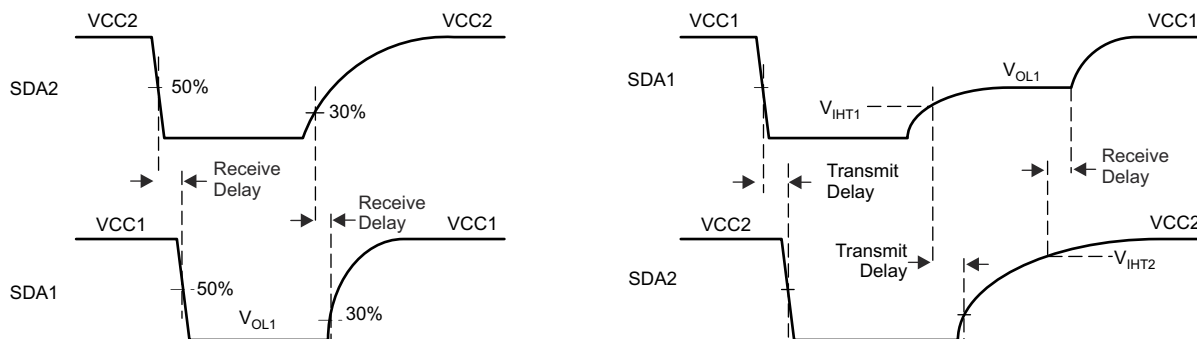

Figure 8-3. SDA Channel Timing in Receive and Transmit Directions
Figure 8-3 demonstrate the switching behavior of the I²C isolator, ISO164x-Q1, between a master node at SDA1 and a heavy loaded bus at SDA2.
8.5.1 Receive Direction (Left Diagram of Figure 8-3)
8.5.2 Transmit Direction (Right Diagram of Figure 8-3)